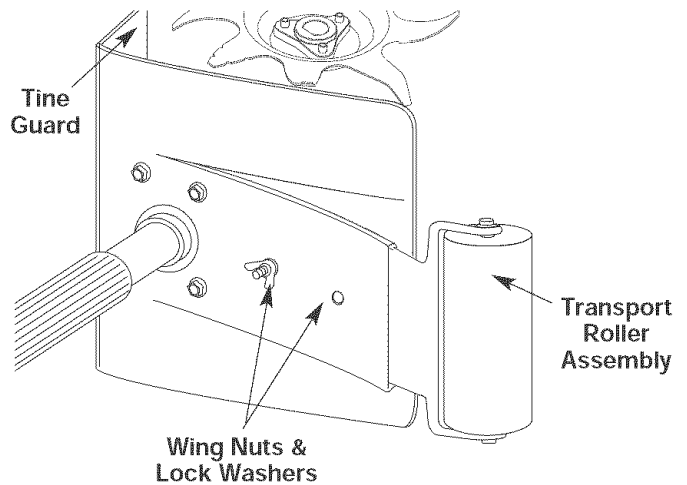

Fig. 3
1. With the unit on its side, place the transport roller assembly on the underside of the tine guard (Fig. 3).
3. On the **TOP** side of the tine guard, install a lock washer and a wing nut onto each of the bolts (Fig. 3).